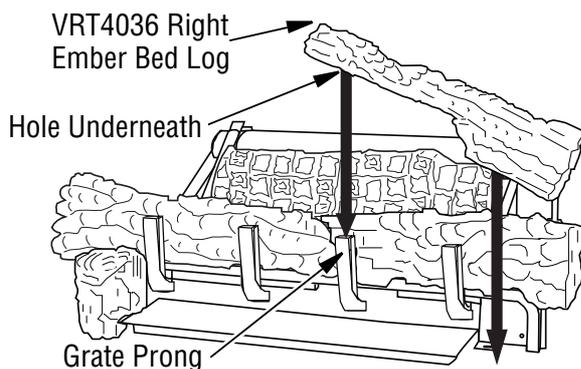

Figure 31 - Installing Right Ember Bed Log
- The VRT4032 and VRT4036 use two different right ember bed logs. The VRT4032 right ember bed log is installed in the same manner as the log in step 3 above but on the right side. The VRT4036 right ember bed log has a hole in the bottom that sets on the grate finger and the other end rest on the fireplace floor, place log as shown in **Figure 31**. The back side of this log needs to rest against the front of the base assembly, make sure the flame from the ember bed pan does not touch the ember bed log.